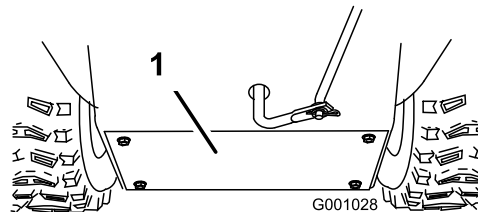

Figure 48
3. Remove the back cover (Figure 48).